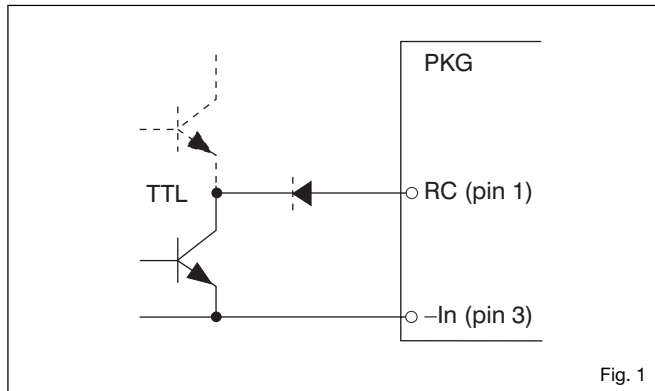

Fig. 1
Remote turn-on and turn-off can be realized by using the RC-pin. Normal operation is achieved if pin 1 is open (NC). If pin 1 is connected to pin 3 the PKG power module turns off. To ensure safe turn-off the voltage difference between pin 1 and 3 shall be less than 1.0 V. RC is TTL open collector compatible (see fig. 1).